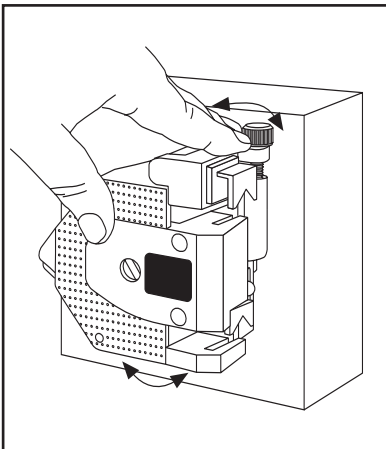

Figure 3-3. Aligning the Pins and Holes
3. Refer to Figure 3-3 and Figure A. Swivel the pump back and forth slightly to align the holes on the back of the base (8) with the alignment pins on the face of the motor. Press the pump base up against the face of the motor.